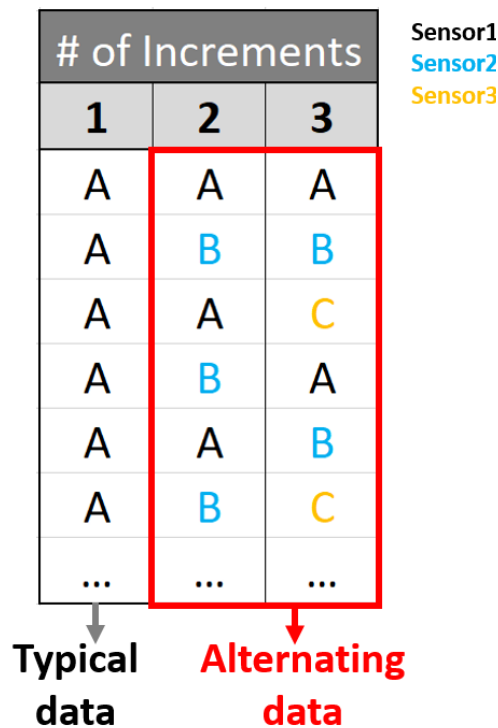

Figure 4.9: Increment Schematic
- The **Increment** parameter is used for very specific niche cases where data is not organized by column, and instead data from separate sensors/channels are alternated within a column, as in columns 2 and 3 of Fig. 4.9. The number of interleaving signals corresponds to the number of increments (Fig. 4.9).